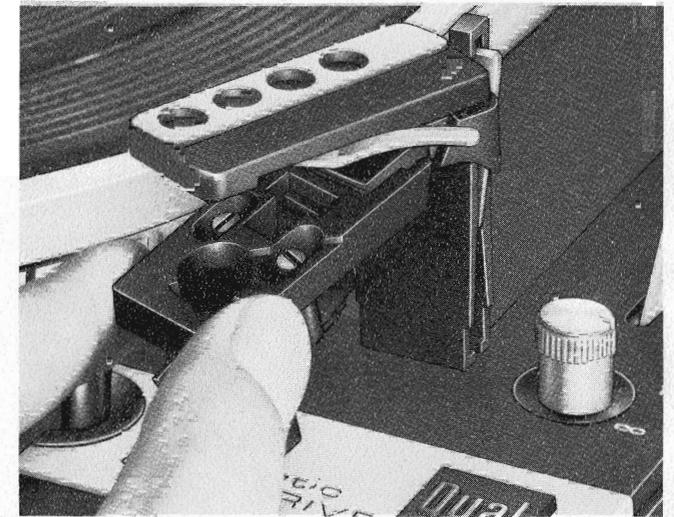

Fig. 3
4. Install the cartridge holder underneath the tonearm head and lock it to the tonearm by moving the tonearm lift forward (see Fig. 3).